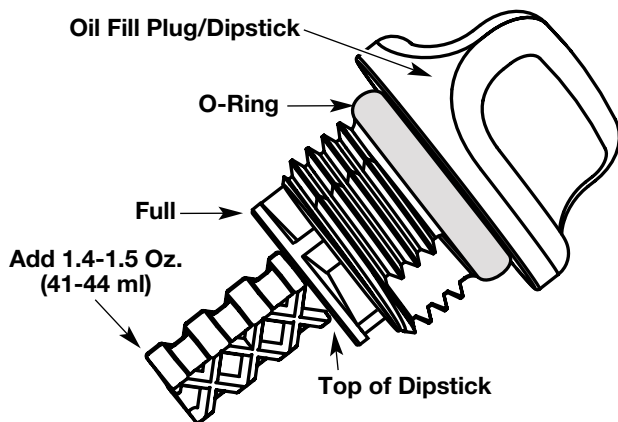
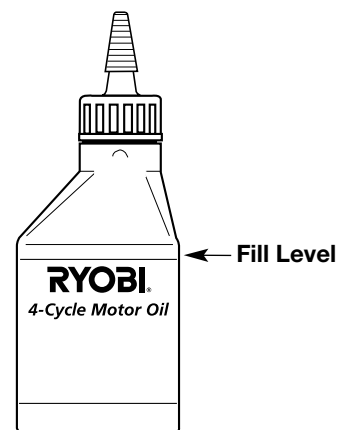

Fig. 39
Fig. 42
5. Remove the oil fill plug/dipstick and check oil level. Oil should be up to the top of the dipstick (Fig. 39).
NOTE: Use the bottle and spout saved from initial use to measure the correct amount. 3.4 ounce (100 ml) is approximately to the top of the label on the bottle (Fig. 42). Check the level with the dipstick. If the level is low, add a small amount of oil and recheck (Fig. 39). Do not overfill.